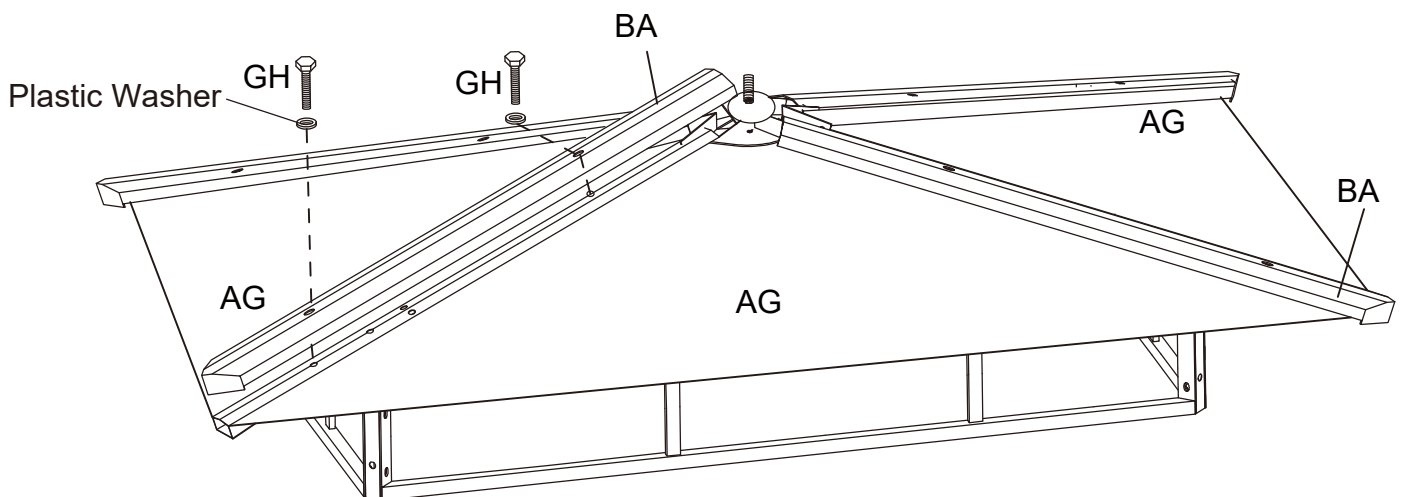

Fig 18
3-e. Attach the Small Top Roof Cover (BA) to the assembled small top by Bolt\Plastic Washer M6*35 (GH), as per Fig.18.